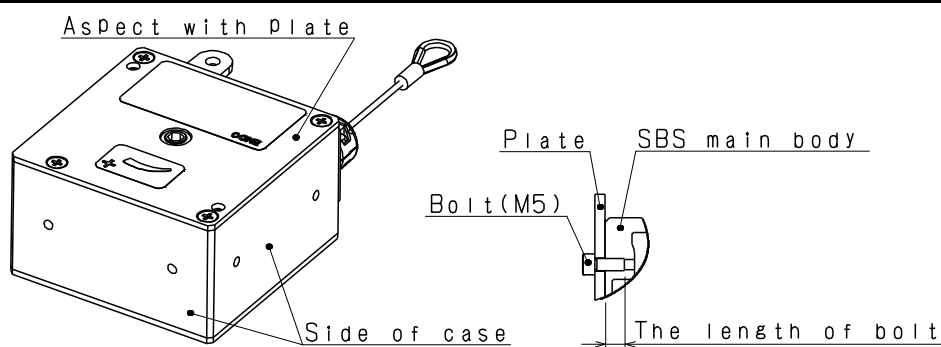

Fig.3
- Adjust the length of bolt inside main body to 8-10mm from aspect with plate, 6-10mm from side of case.(see Fig.3)